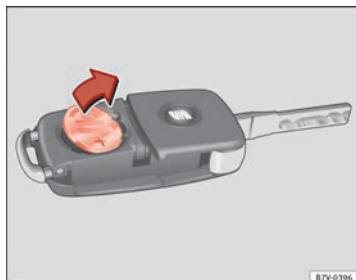

Fig. 16 Vehicle key: removing the battery
- Extract the battery from the compartment using a suitable thin object ⇒ Fig. 16.
- Place the new battery in the compartment, pressing as shown ⇒ Fig. 16 in the opposite direction to the arrow ⇒ ②.